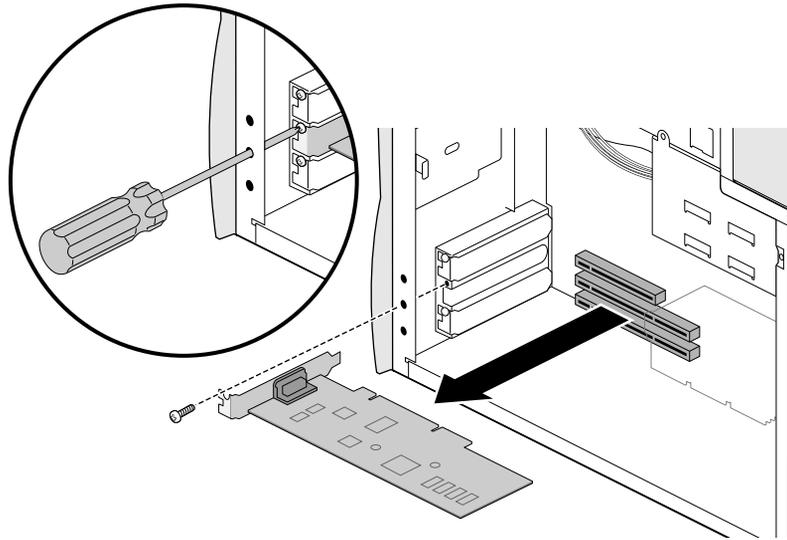

Figure 5-3 Removing a PCI Card
5. Remove the card, as shown in Figure 5-3.